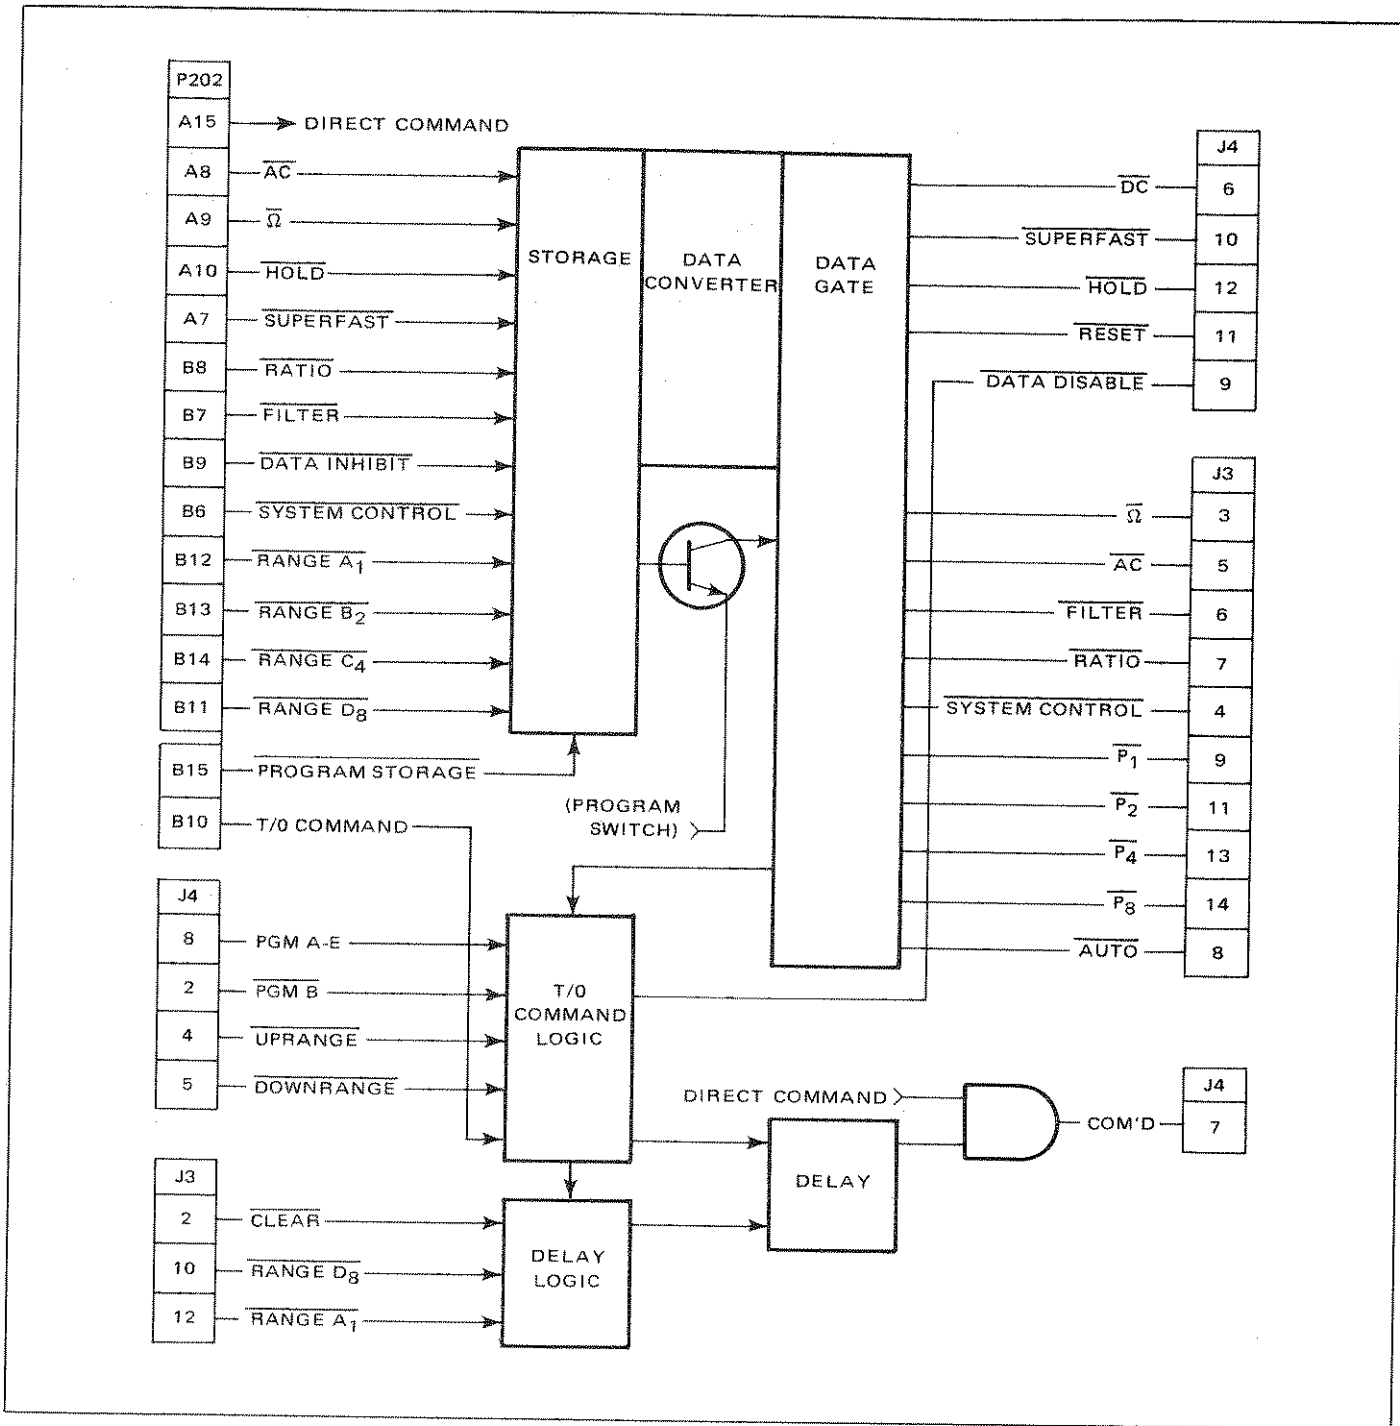

Figure 4.17 - Program Block Diagram
4.84 The circuitry, shown simplified in figure 4.17, consists of the program logic, data gate, and the command/timeout circuitry. The program logic converts the control line data generated at P202 to correspond to the instrument control lines. The data gate passes or rejects the converted data; the gate is enabled when the program switch is operated and system control is selected on P202. A series of inputs with their outputs are shown in table 4.7. The timeout circuitry generates the necessary timeouts for delayed remote programming. The timeout periods are covered under paragraph 2.99.